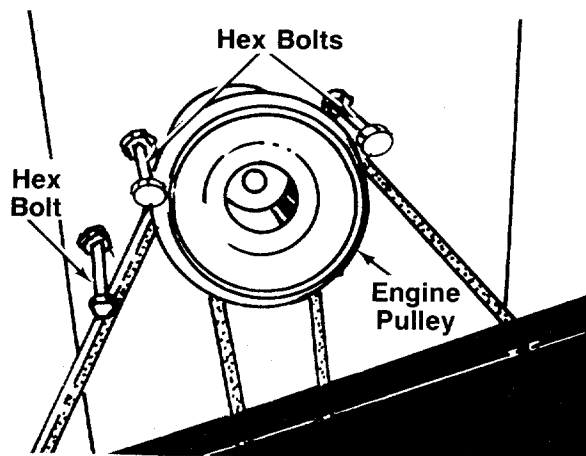

FIGURE 3.
2. Remove the three hex bolts (belt keepers) from the engine pulley belt guard. See figure 3.
Figure 3 is shown with the unit tipped up for clarity. It is not necessary to tip the unit to remove the belts.